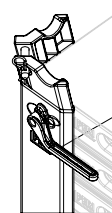
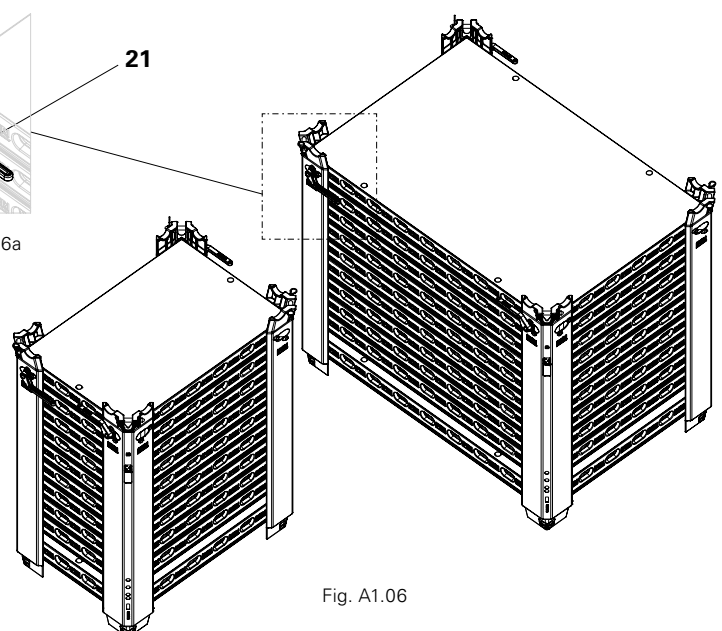

Fig. A1.06a
Fig. A1.06
- Secure the top panel on each stacking device with at least one DUO coupler (**21**). (Fig. A1.06 + Fig. A1.06a)